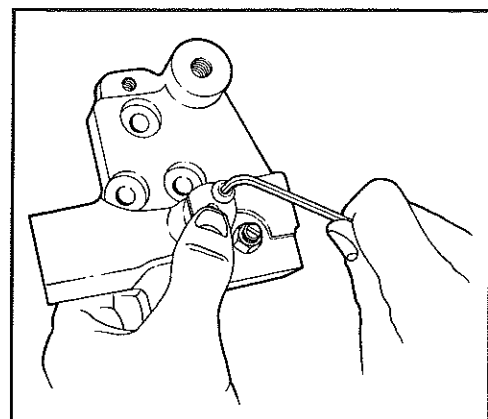

Fig. 11
1. Press down on control valve cover to relieve spring pressure and remove screw. See Fig. 11.